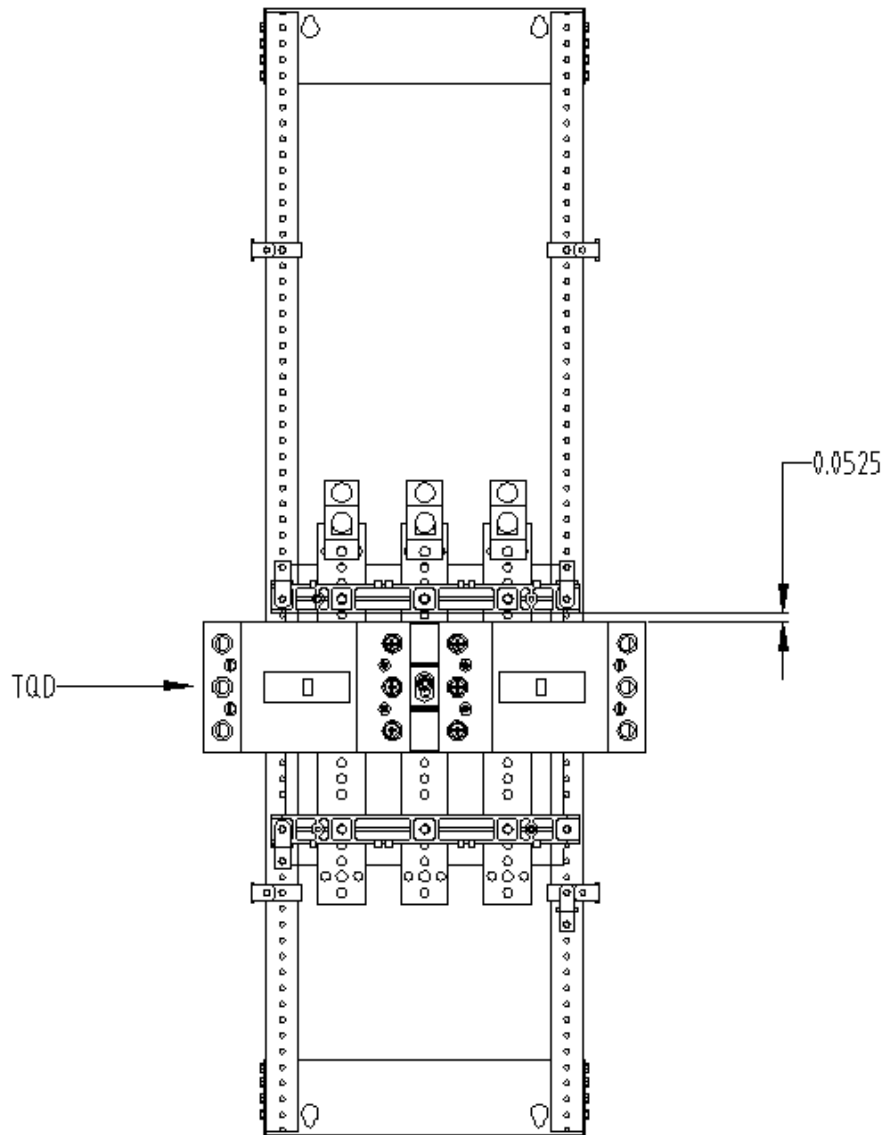

Figure 5 Distance between the Crossbar and TQD breaker
13. If TQD breaker has to be installed immediate after crossbar as shown in Figure 5 then gap between the breaker and crossbar has to be 0.0525inch.